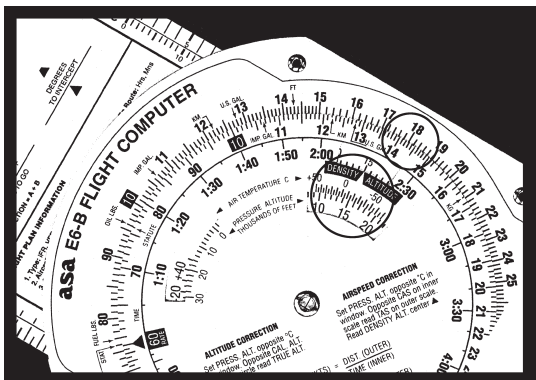

Figure 13
3. Read the density altitude over the arrow in the DENSITY ALTITUDE window. See Figure 13.
Figure 13 shows a pressure altitude of 15,000 feet set opposite an outside air temperature of -15°C . A calibrated airspeed of 145 knots converts to a true airspeed of 183 knots and a density altitude of 15,000 feet under these conditions.